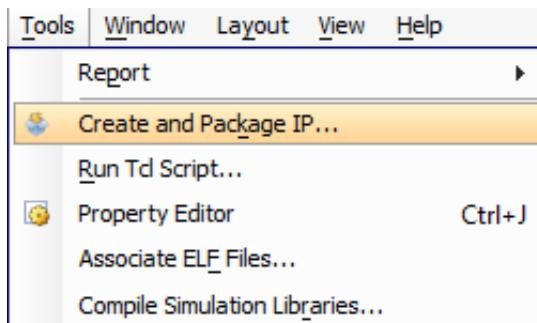

Figure 8-2: Create and Package IP Option
1. From the **Tools** menu, select **Create and Package IP**, as shown in Figure 8-2, page 71.